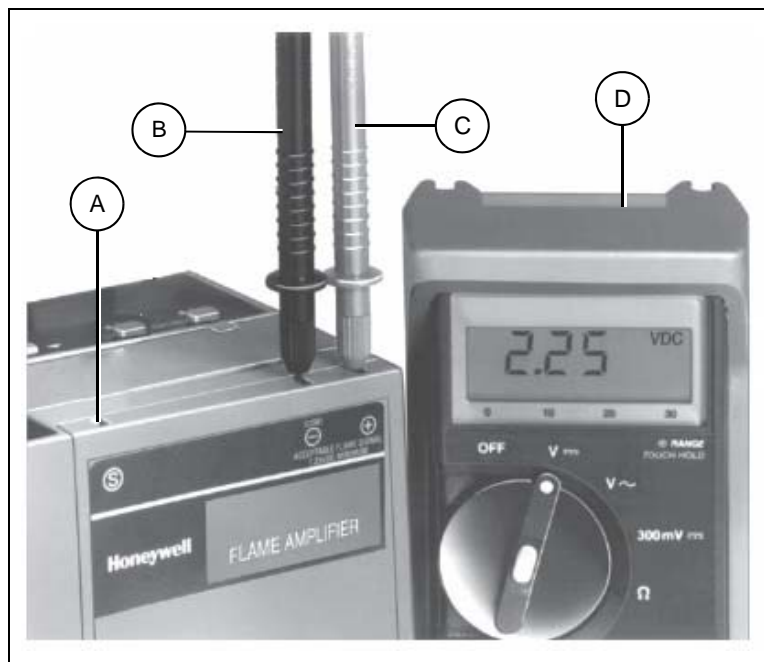

Figure 4C Honeywell Test Flame
- b. Flame signal can be checked at the Honeywell burner control, located in the main power panel, as shown in Figure 4C on Page 35.